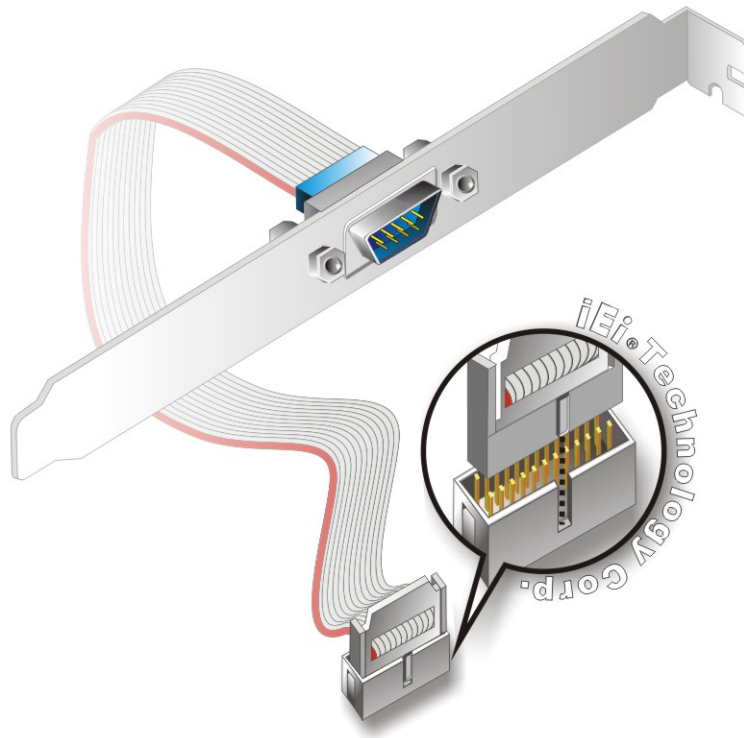

Figure 4-11: Single RS-232 Cable Installation
Step 2: Insert the cable connector. Insert the connector into the serial port box header. See **Figure 4-11**. A key on the front of the cable connectors ensures the connector can only be installed in one direction.